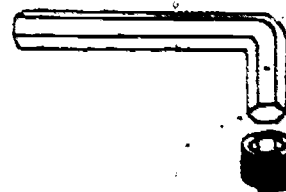

Figure 23. Allen Wrench Application
**Allen.** Allen wrenches are merely six-sided bars bent into the shape of an "L." They are used to turn internal wrenching bolts and screws (see figure 23).